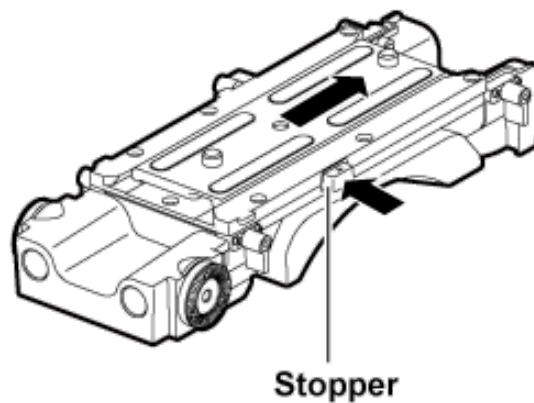
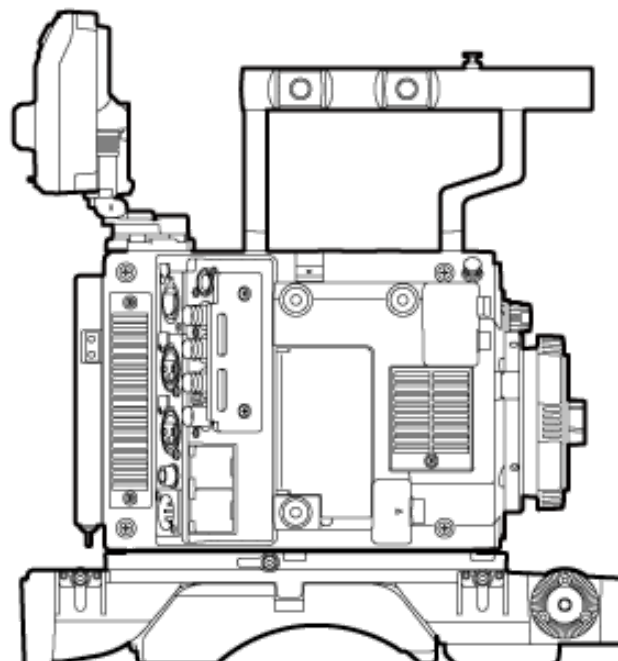

Fig. 2
Fig. 4
- 2 **Remove the slide rail from the shoulder mount module while pressing the stopper to the direction indicated by the arrow. (Fig. 2)**
- 4 **Slide the camera forward along the groove in the shoulder mount module from the rear until it clicks. (Fig. 4)**
- 2 **Remove the camera from the shoulder mount module by sliding the camera toward rear while pressing the stopper to the direction indicated by the arrow (Fig. 2). (Fig. 4)**